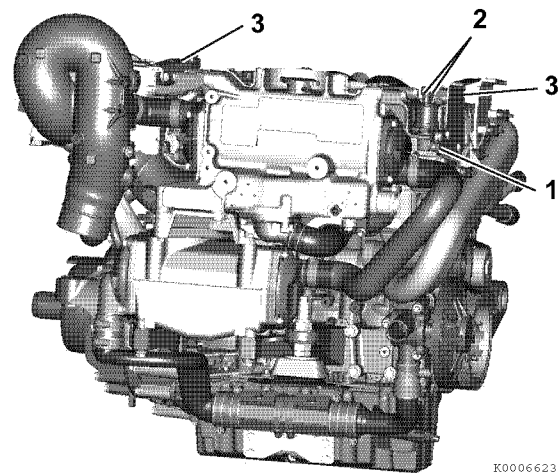

Figure 5-10
4. Remove the banjo bolt (1, **Figure 5-10**) securing the oil pressure sender line to the front heat exchanger mount. Disconnect wires (2, **Figure 5-10**) from oil pressure sender.
6. Remove front and rear heat exchanger mounting brackets (3, **Figure 5-10**).